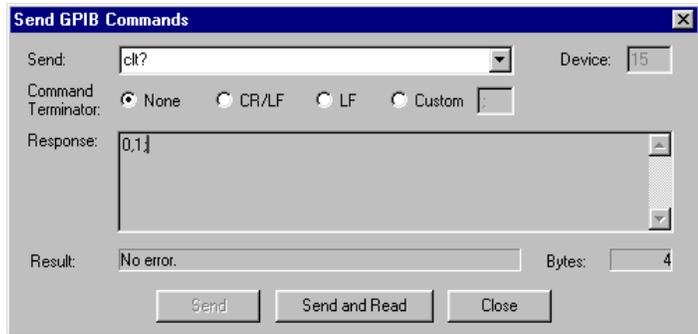

Figure 2. Using the Send GPIB Command dialog to verify control mode
2. The **Send GPIB Commands** dialog will open, as shown in Figure 2.
(just as is shown in Figure 2). Then click on the **Send and Read** button.
4. In the **Response:** area, the utility will report two numbers (e.g., "0,1" as shown in Figure 2).
The first number indicates the active temperature control mode and the second indicates if the CLTC option has been installed. For example, the first number in Figure 2 is "0," indicating that the system is using pot-fill mode, but the second number is "1," indicating that the CLTC option has been installed. A "0,0" report would indicate that pot-mode is being used but there is no CLTC option, and a "1,1" report would indicate that low temperatures are being controlled by the CLTC option.